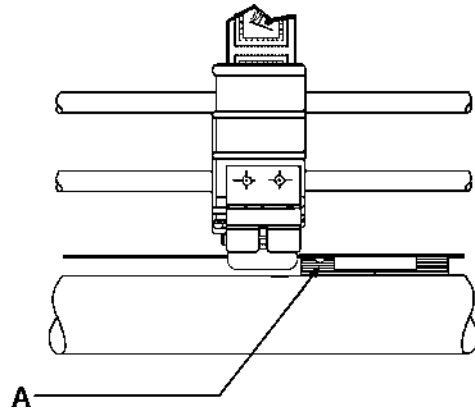

Figure 8
13. Slide the guide spring with the media sensor to a position at the left of the stamp sensor guide [Figure 8]. **NOTE:** This guide contains the media sensor and must be positioned per the illustration.
12. The counter (H. Fig. 8) will advance one count with every label placed on an envelope. It will only count when **LABEL ON** switch is activated. Maximum count is 99,999. To reset the counter to 0, depress the **COUNTER RESET** switch (1, Fig. 8).